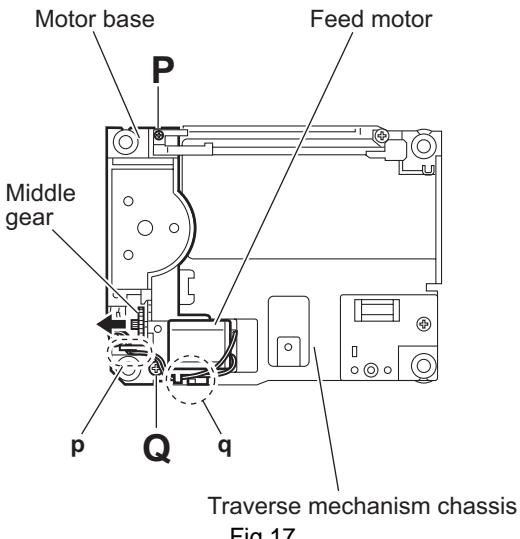
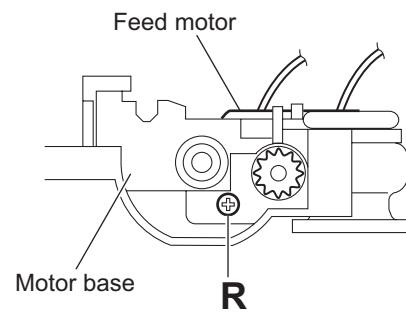

Fig.17
Fig.18
(See Figs.17 and 18)
- (1) Remove the middle gear in the direction of the arrow. (See Fig.17.)
- (2) Remove the screw **P** and screw **Q** attaching the motor base.
- (3) Remove the screw **R** attaching the feed motor to the motor base. (See Fig.18.)
- (4) Take out the feed motor from the motor base.
After attaching the feed motor, let the wires through the sections **p** and **q** on the motor base. (See Fig.17.)